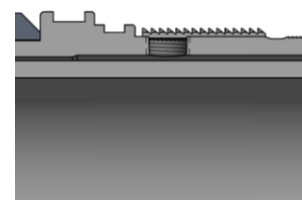

Fig. 3
NOTE4: Threads on lock ring (10) must be in installed in correct direction for tool to work properly (Fig. 3).